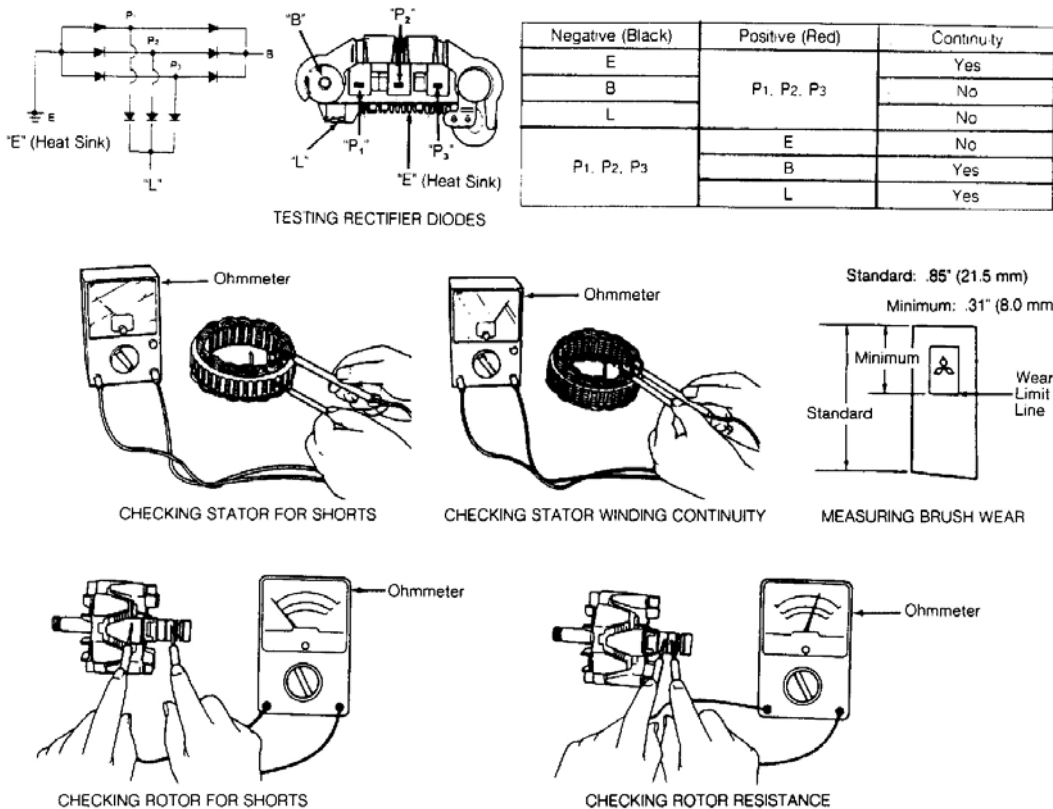

Fig. 8: Overhauling Alternators
1. Place a 200-watt soldering iron against rear bearing for 3-4 minutes to heat rear cover to 122-140°F (50-60°C). Carefully separate front case and rotor from rear cover and stator. See **Fig. 8** , **Fig. 10** and **Fig. 11** .